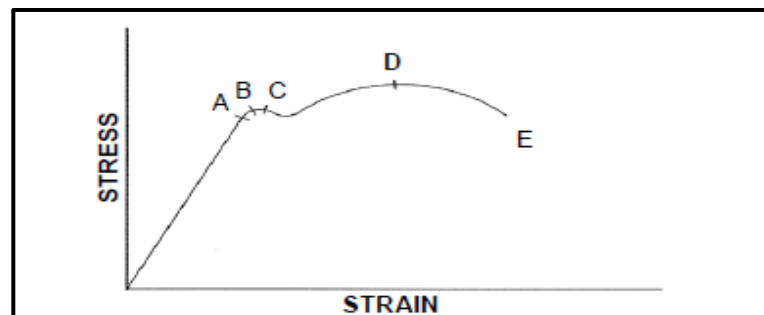

FIGURE 4.7
4.7 What does the point **E** denote in the stress/strain diagram in FIGURE 4.7?